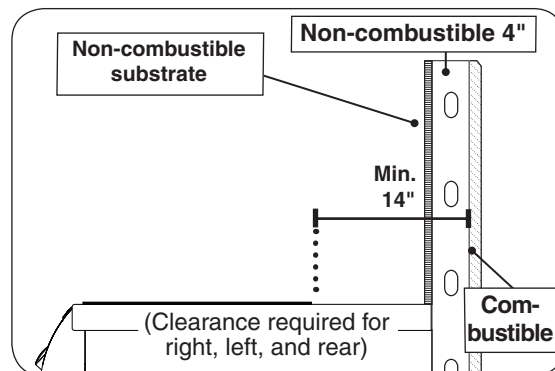

Fig. 10-2 Clearance 'B' Diagram
B. Clearance between unit and a protected combustible wall (i.e. a non-combustible wall in front of a combustible wall to serve as a barrier. This can be accomplished by brick, or a metal stud finished with non-combustible substrate, see Fig. 10-2)